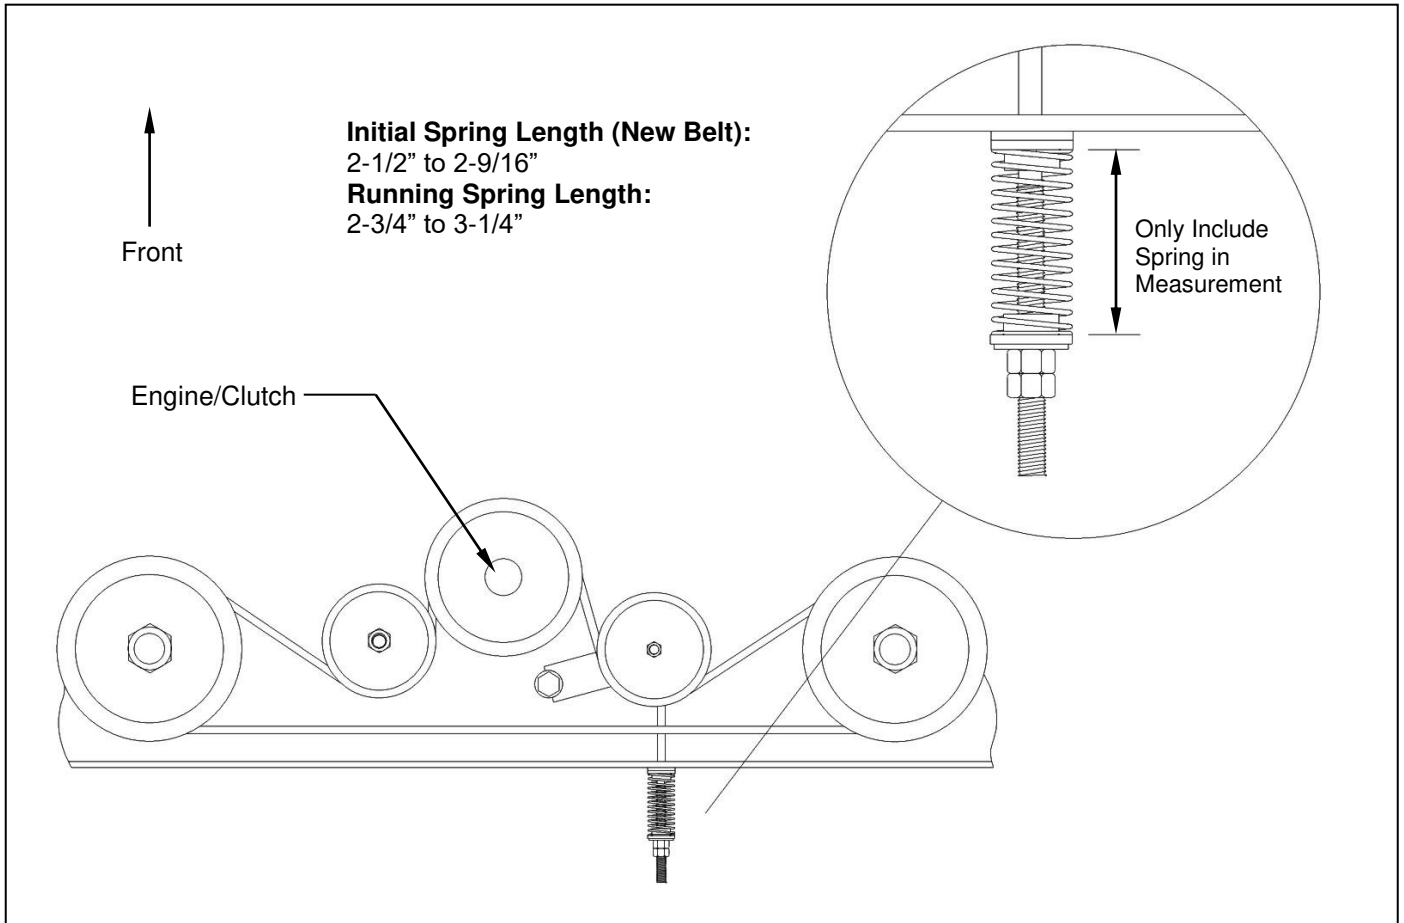

Figure 7: Belt Pattern and Spring Adjustment
A. DRIVE BELT REMOVAL AND TENSION – Refer to Figure 7
Install the new belt and then adjust the tension as follows: **See Figure 7.**